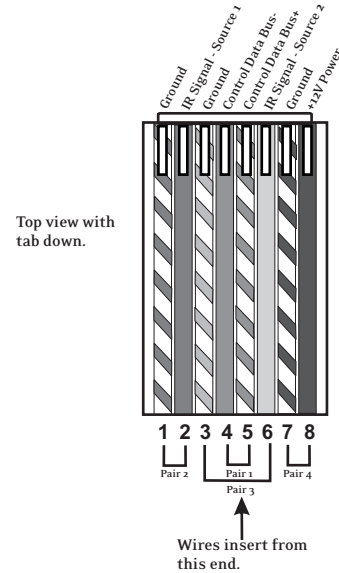

Fig. 1: EIA 568A wiring scheme for CAT5 Cable
The correct wiring scheme for the CAT5 cable is standard EIA/TIA 568A. Properly terminating the CAT5 cable is crucial for the operation of the system. It is very important to use a good quality crimp tool, and testing each end to end run with a CAT5 wire tester will insure that your system operates flawlessly, fig.1.
2. Untwist the wires and fan them out individually. Arrange the wires into the correct color scheme as shown in Fig. 1.